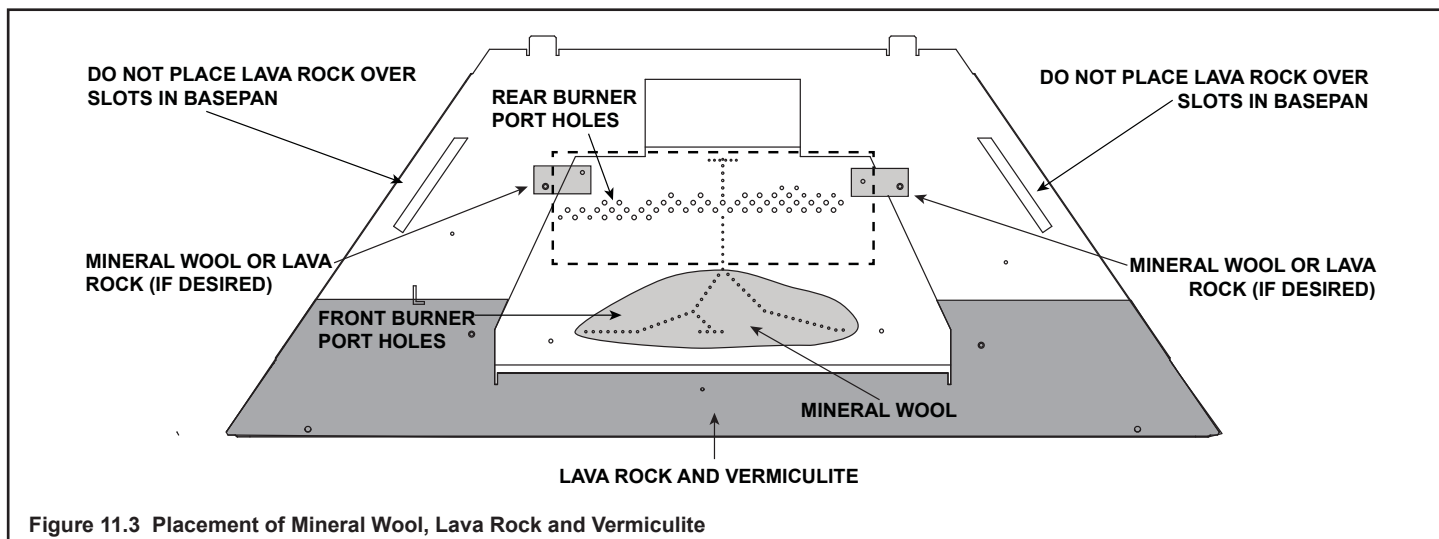

Figure 11.3 Placement of Mineral Wool, Lava Rock and Vermiculite
- Place a small amount of 1/2 in. diameter pieces (dime-size) mineral wool on the burner pan as shown in Figure 11.3. The mineral wool may be placed loosely over the front burner port holes in the burner pan. Do NOT press them onto or into the burner port holes. This will provide the “glowing embers” look.
Place the lava rock in an even layer just heavy enough to cover the metal surface. Stay within the zone indicated in Figure 11.3. It is not necessary to use the entire bag. Save the remaining amount for future use.
Spread vermiculite in a light, even pattern on top of lava rock. Stay within the zone indicated in Figure 11.3. It is not necessary to use the entire bag. Save the remaining amount for future use.